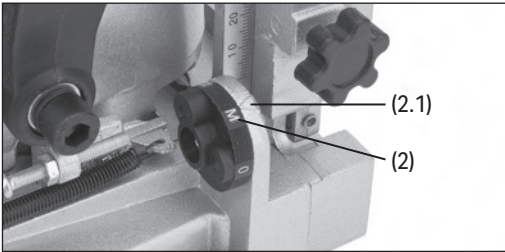

Fig.2
- To switch the biscuit jointer on push the switch (1) forward.
6.2 Blade Depth Selection (Fig.2)